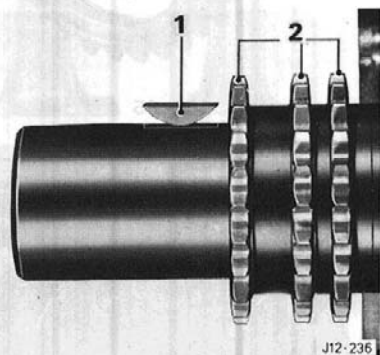

Fig. 95
Remove seal/crankshaft damper spacer, the crank damper woodruff key (1, Fig. 95), oil the crankshaft sprockets (2, Fig. 95) and the inner woodruff key.